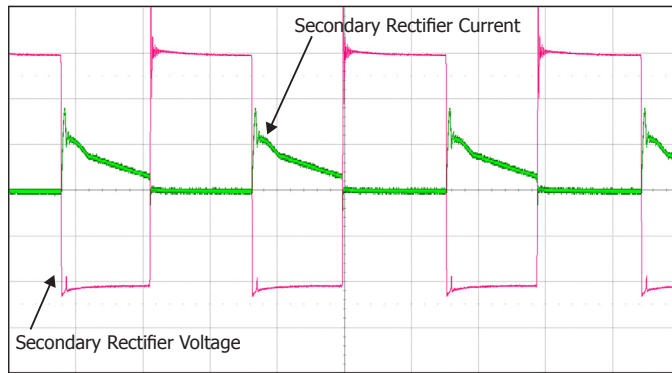
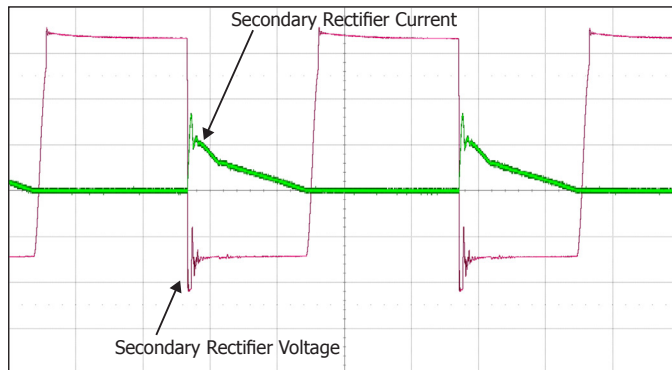

Figure 27. Secondary Rectifier Waveforms with Slow-Recovery Diode.
Figure 28. Secondary Rectifier Waveforms with Ultrafast Diode.
1. Use standard-recovery diode for the auxiliary circuit. Figure 27 shows the FWD pin voltage waveform using standard-recovery diode. Compare that to Figure 28 which shows the same waveform using ultrafast diode. The slow reverse recovery response enables the secondary controller to initiate a switching request while the rectifier is still conducting (CCM). With an ultrafast diode, the FWD pin voltage crosses 0 V which causes the secondary controller to assume that it is in DCM operation. In this case a switching request will not happen until the FWD pin exceeds VO pin voltage.